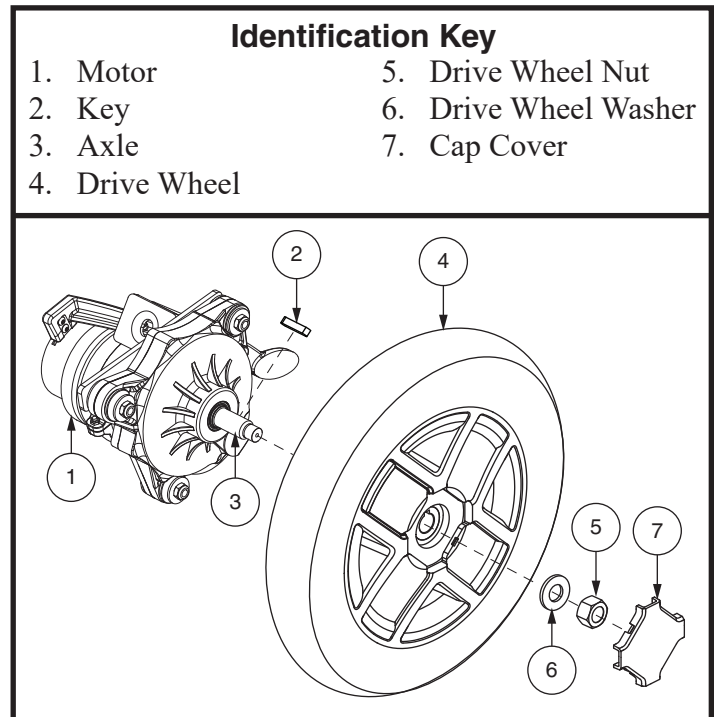

Figure 13. Drive Wheel Removal
4. Remove the cap cover, drive wheel nut, and washer from the axle. See figure 13.
6. Remove the screws from the rim assembly and separate the front and rear rim. See figure 13.
A battery wiring diagram is printed on a decal located on the front battery tray. See figure 13. See VI. “Batteries and Charging” for correct battery specifications.
9. Install new batteries into the power base. Make sure the terminals of each battery are facing toward each other. See figure 13.